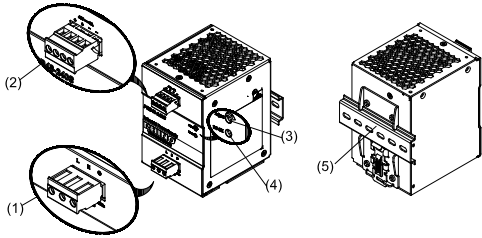
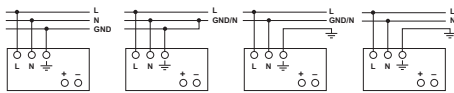

Figure 1
Figure 6
## 2. Device description (Fig. 1)
### 5.1. Input connection (Fig. 1 (1), Fig. 6)
Use L, N and GND connections of input terminal connector (see Fig. 1 (1)) to establish the 100-240 VAC connection.
### 5.2. Output connection (Fig. 1 (2))
Use the "+" and "-" screw connections to establish the 48 VDC connection. The output provides 48 VDC. The output voltage can be adjusted from 48 to 56 VDC on the potentiometer. The green LED DC OK displays correct function of the output (Fig. 1 (4)). The device has a short circuit and overload protection and an overvoltage protection limited to 57 VDC.